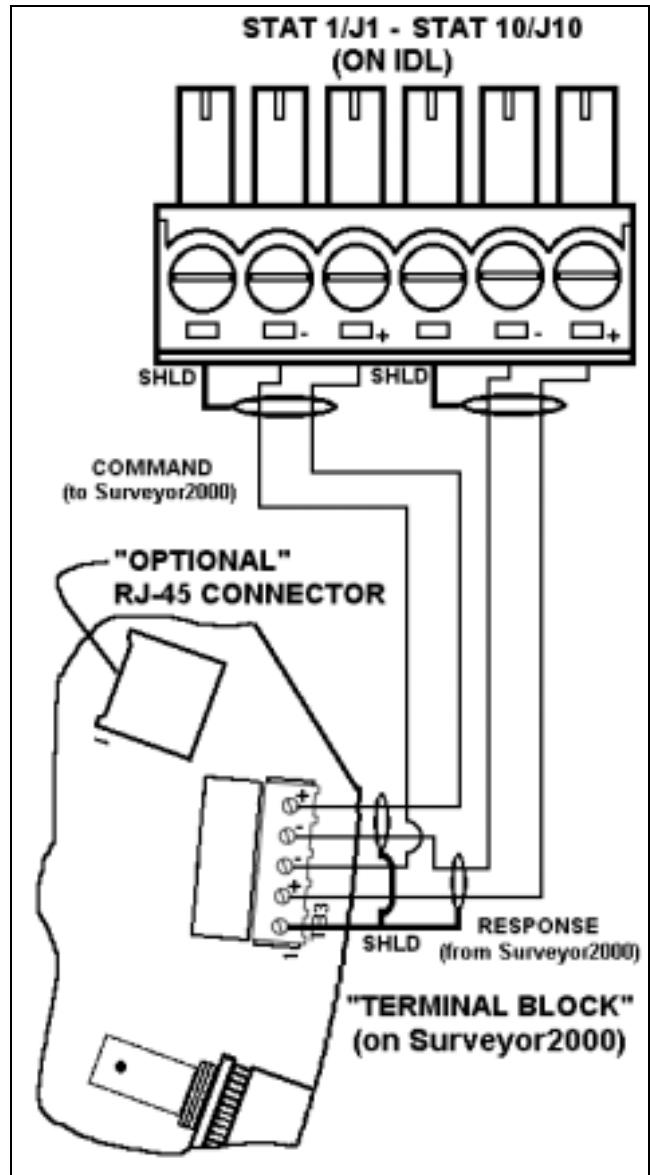

Figure 13
2. Connect the Receiver (RJ-45 connector) end of the 6-foot cable to the appropriate connector as shown in Figure 13.